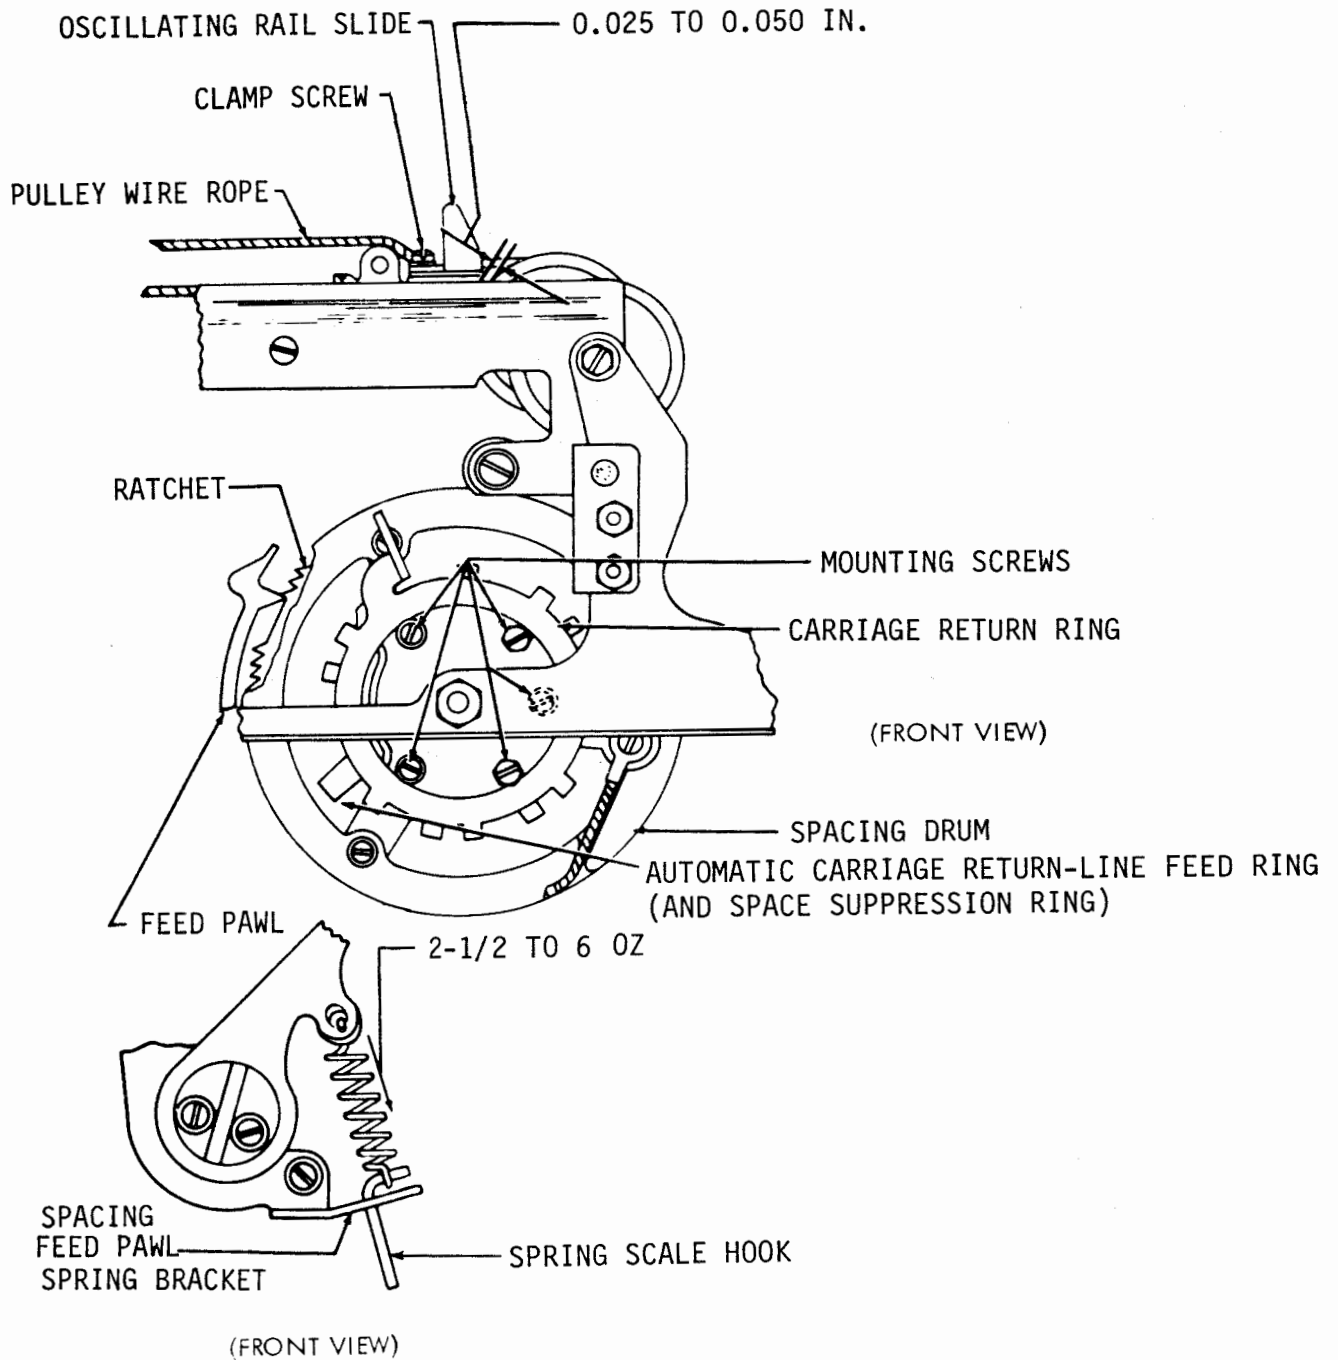

Figure 6-91. Oscillating Rail Slide Position and Spacing Feed Pawl Spring
(13) Oscillating Rail Slide Position. Adjust oscillating rail slide position as follows:
- (a) Refer to figure 6-91.
(14) Spacing Feed Pawl Spring. Adjust spacing feed pawl spring as follows: